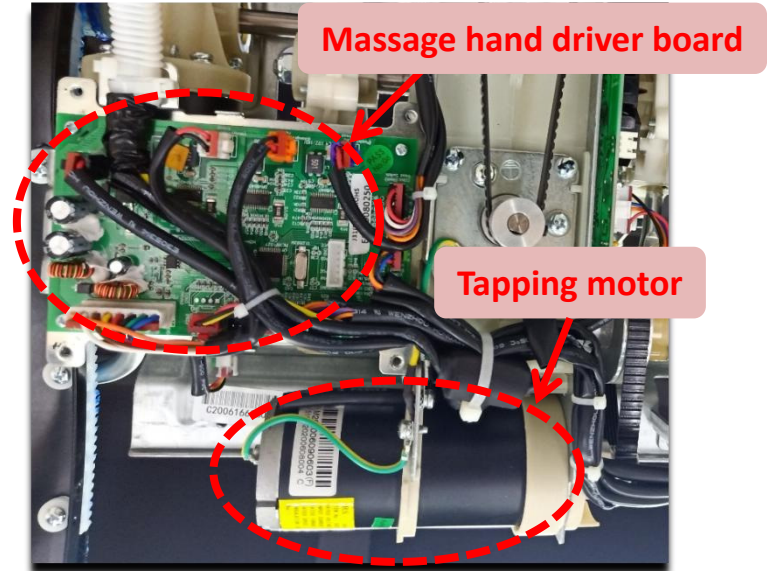

Figure 2
- B. To check whether the motor is damaged, the power supply of the kneading motor can be used to judge the quality of the motor (Figure 2) ;
- C. Substitution method to determine whether the drive board is damaged (Figure 2);Fault code :FA/F5